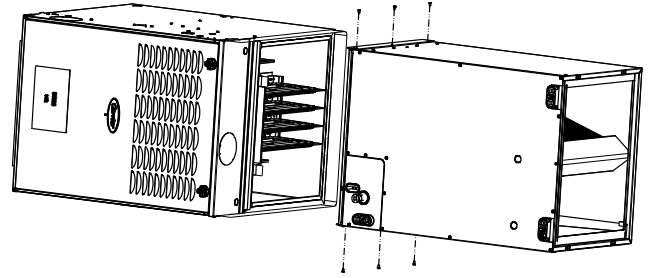

Fig. 9 – Horizontal Right Installation
4. Use self-tapping screws to attach furnace (Fig. 9).